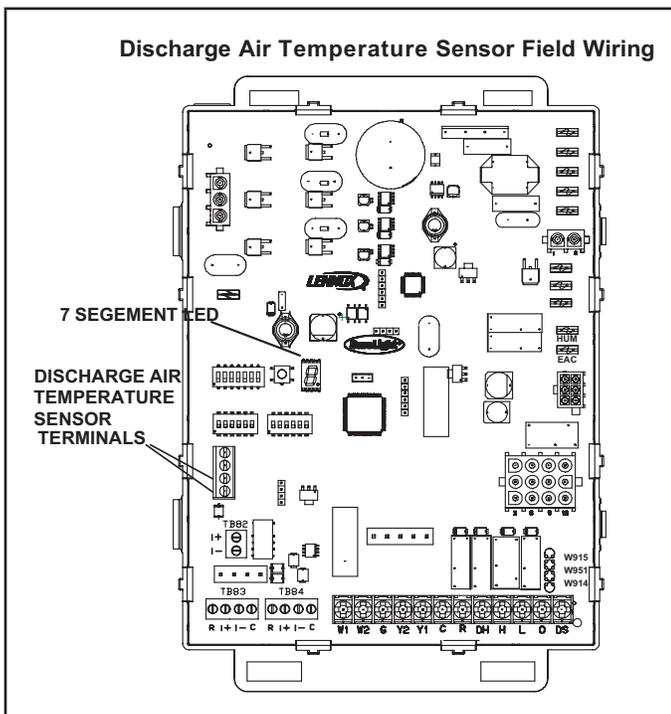

FIGURE 1
- 5 - Connect field supplied wiring to the discharge air temperature sensor terminals on the integrated control board. See figure 1